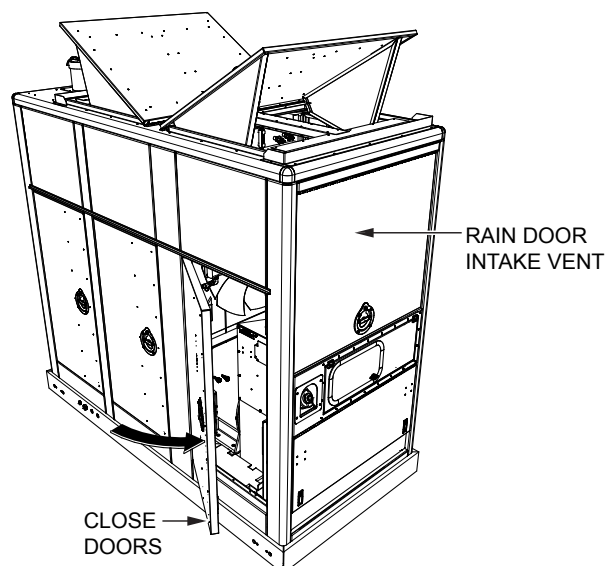

Figure 29. Engine Enclosure Doors
1. Close the enclosure doors once the generator has started (Figure 29). Top vents stay open for proper ventilation.